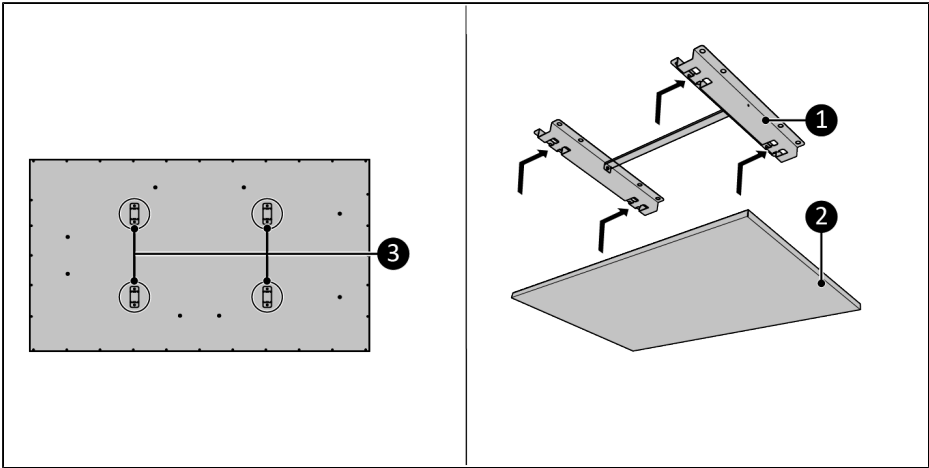

Figure 43.
8. Place the device brackets (Figure 43, pos. 3) over the ceiling bracket (Figure 43, pos. 1).
9. Slide the device (Figure 43, pos. 2) into the openings of the ceiling bracket (Figure 43, pos. 1).